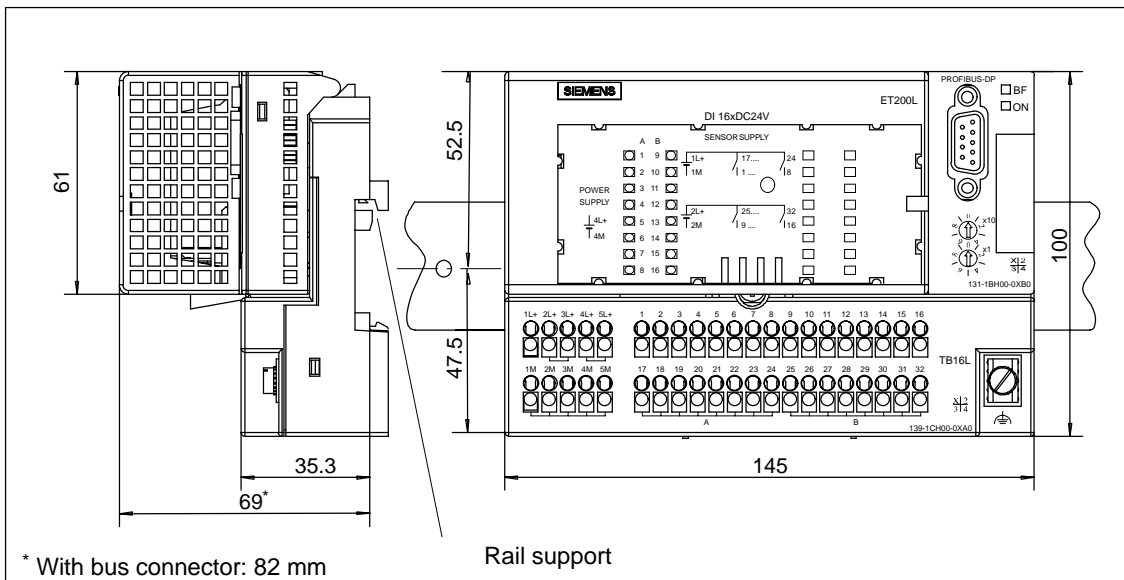

Figure 7-1 The TB 16L Terminal Block with the Electronics Block Clipped On, Dimension Drawing
**Dimension Drawing** In Figure 7-1 you can see the dimension drawing of the TB 16L terminal block with the 16 DI 24 V DC electronics block clipped on.